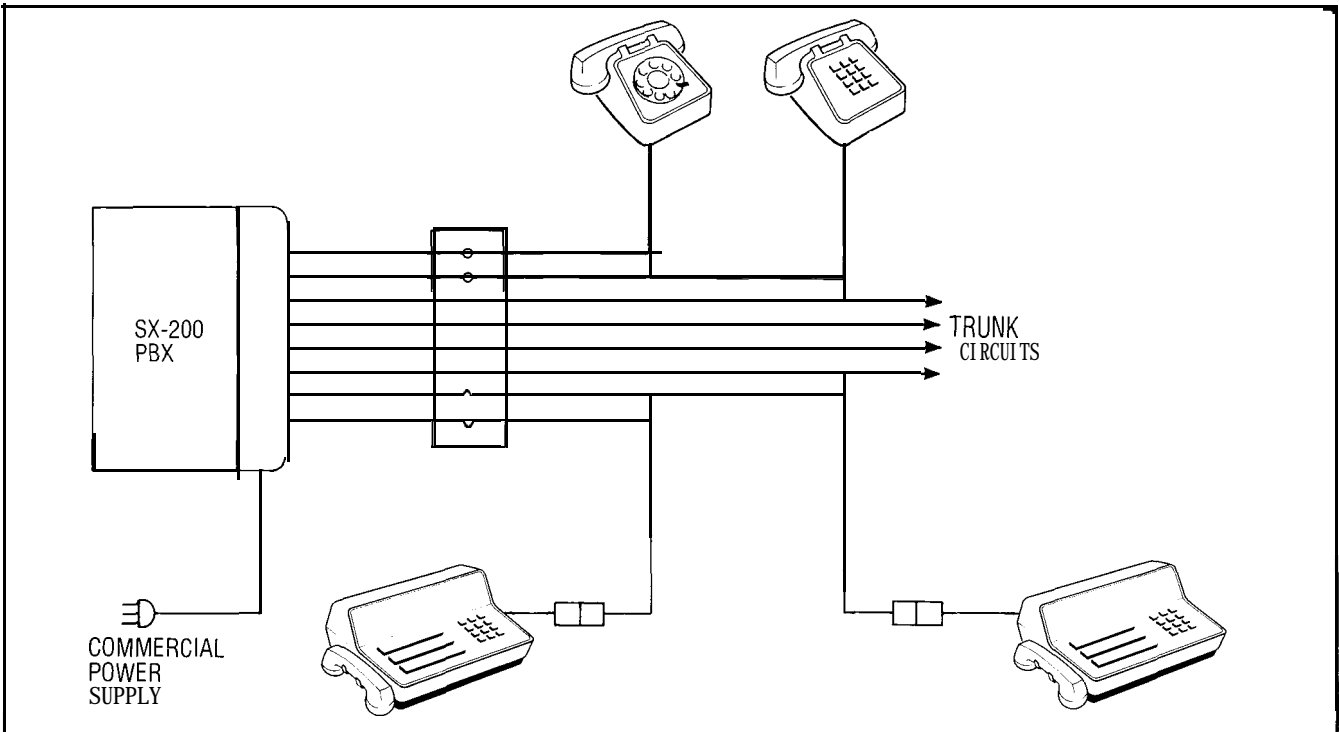

Fig. 2-2 SX-200 System Configuration
2.05 Figure 2-2 shows a diagrammatic representation of the SX-200 system configuration.